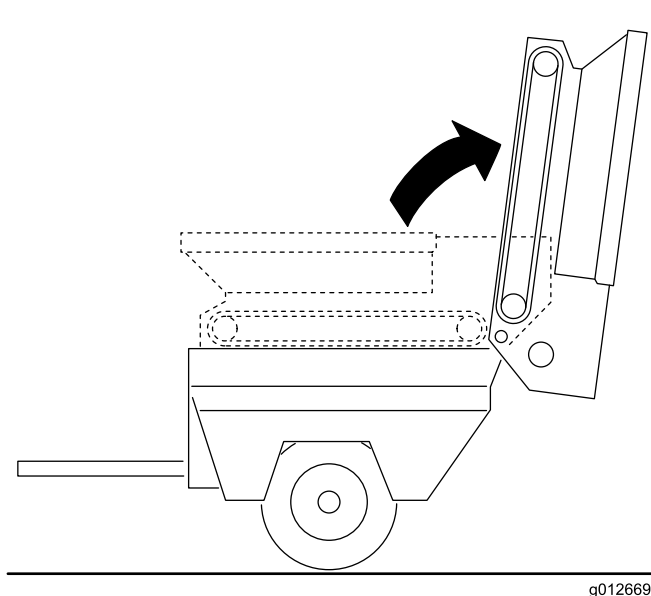

Figure 24
5. Pivot hopper rearward and lean against wall, ladder, etc. Do not allow hopper to rest against rear of machine as damage may result to brush or hydraulic couplers (Figure 24)
Important: Make sure hopper is pivoted beyond center and/or secured to wall or post to prevent it from accidentally falling on work area (Figure 24).